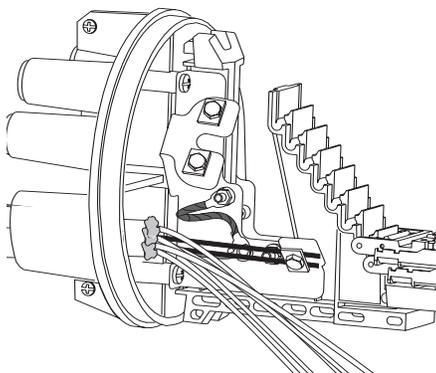

Figure 17
Locate the two preinstalled twisted copper bonding cables attached to the tray bracket. One end of each twisted copper bonding cable is attached to the metal tray bracket; the other end is an eyelet to which bond wires from cables will be attached with the supplied nut and bolt assembly. (Figure 17) Each twisted copper bonding cable can accommodate two bond wires from fiber optic cables. Cables are now bonded with the base, which can be externally grounded using feedthrough studs or through external ground wires.
2. Loosen the square washer and place the strength member(s) underneath it. Tighten the square washer to secure the strength members against the base. (Figure 17)